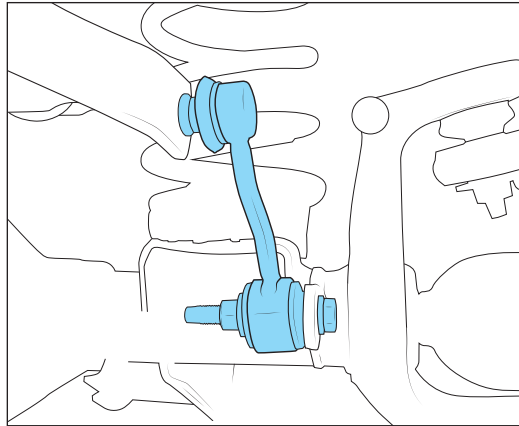

Figure 18
5. Remove both sway bar links and hardware, save hardware. Note orientation, new links will be installed in the same way (Fig 18).